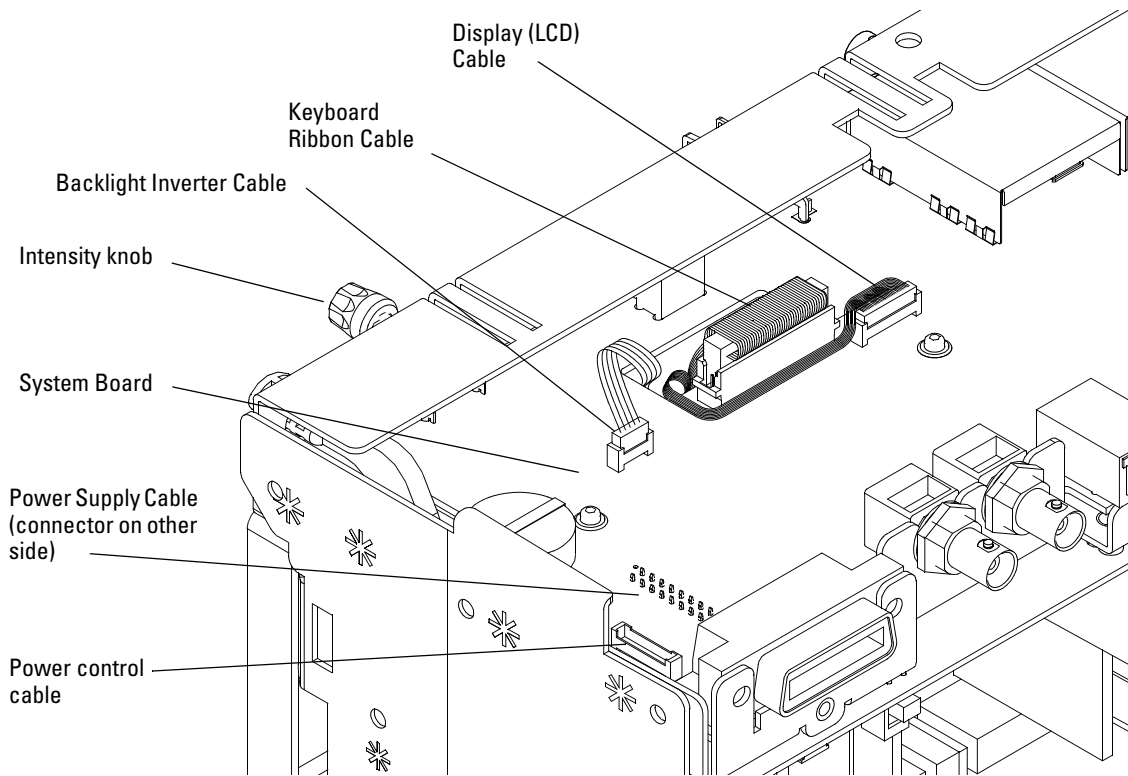

Figure 39 Preparing to remove the system board
- g** Ensure that the backlight, fan, and LCD cables are routed to the left of the keyboard ribbon cable as shown in Figure 39 on page 109.